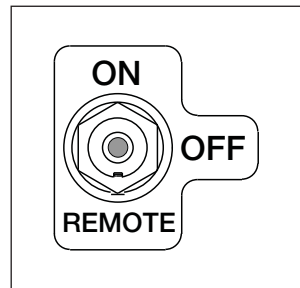

Figure 5, Motor Switch
5.2 Pump Motor Switch (See Figure 5)
5. Move the pump motor switch to the REMOTE position. See Figure 5.
4. Move the pump motor switch to the REMOTE position. See Figure 5.